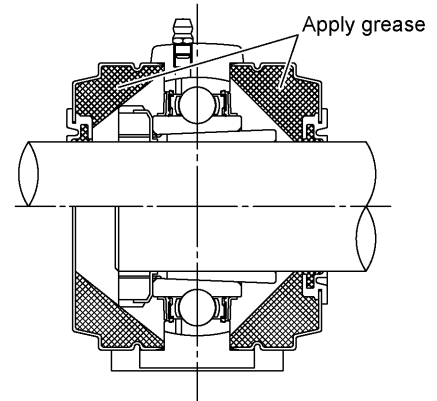

Fig. 5.1: For pressed steel covers
- 2) Apply an amount of grease corresponding to 1/3 to 1/2 of the volume of the space inside the covers to that space as shown in Figs. 5.1 and 5.2.